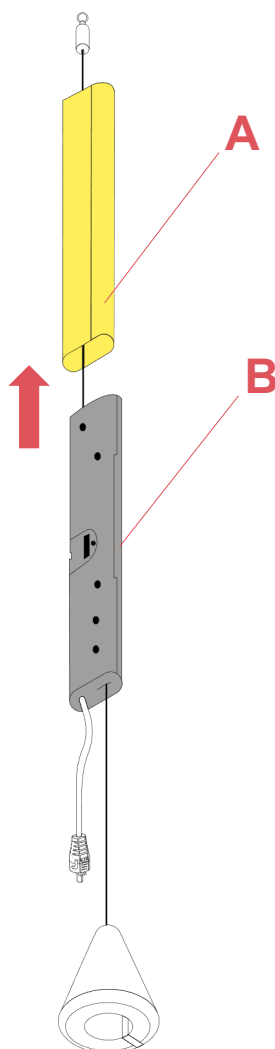

Fig.3
Install the new extrusion (A) by sliding it through the suspension steel wire and locking it on the central body (B).(Fig.3 page 10)